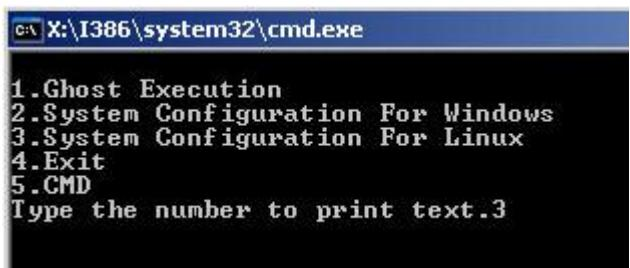

Figure C-20: System Configuration for Linux
Step 4: Build-up recovery partition. Press any key to boot from the recovery CD. It will take a while to launch the recovery tool. Please be patient. When the recovery tool setup menu appears, type <3> and press <Enter> (**Figure C-20**). The Symantec Ghost window appears and starts configuring the system to build-up a